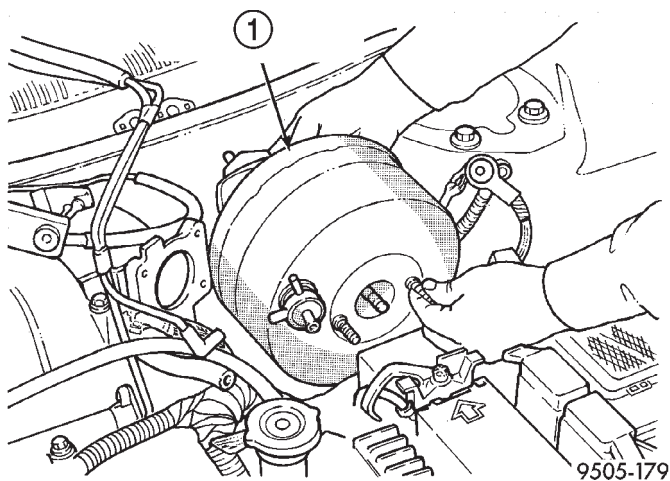

Fig. 76 Power Brake Vacuum Booster Removal
(18) Slide the vacuum booster straight forward until mounting studs clear dash panel. Then lift the vacuum booster straight up to remove it from the vehicle (Fig. 76).